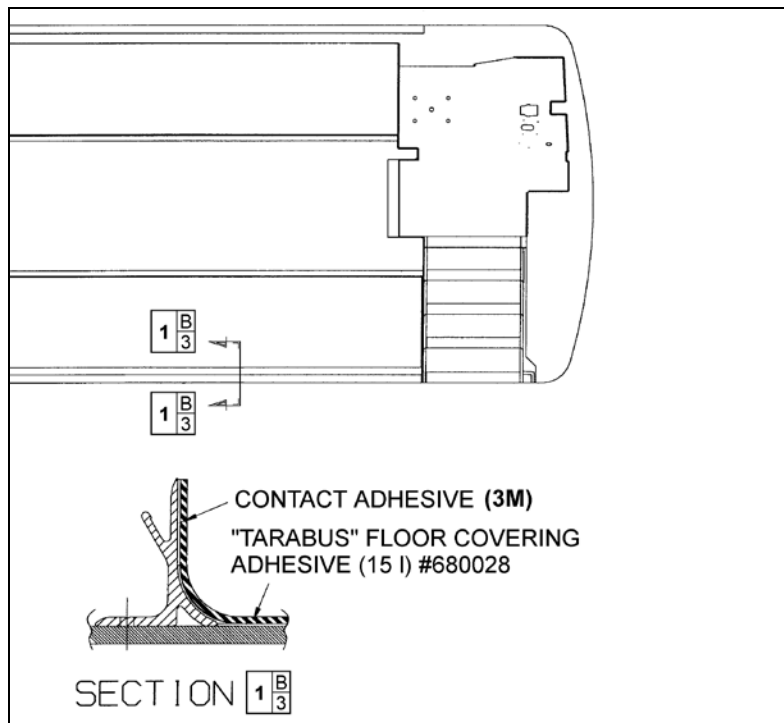

FIGURE 80: TARABUS FLOOR COVERING ADHESIVE APPLICATION
6. Apply floor covering adhesive (680028) onto plywood using a serrated spreader with 1/8-inch serration. If required, apply contact adhesive (3M) (684655 or 684654) onto aluminum molding and also onto section of floor covering, which will be in contact with molding (refer to Figure 80).